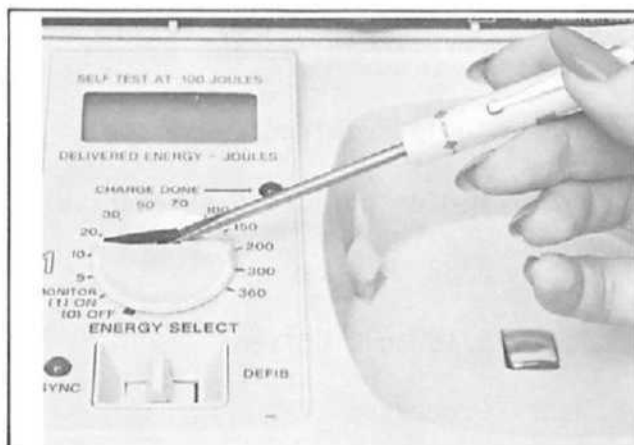

Figure 4-17.
1. The pointer is an insert and is removed by prying up at the tail-end with your thumbnail or a small screwdriver (see Figure 4-17).